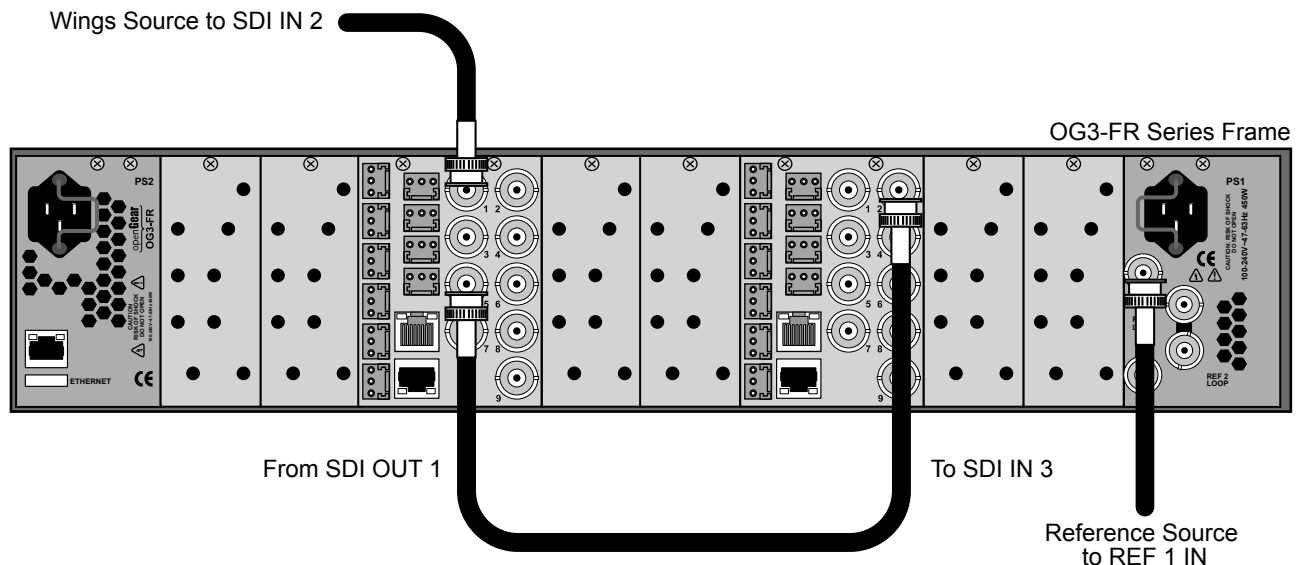

Figure 19.1 Cabling for the Cascade feature
In **Figure 19.1**, the rear module depicted on the left is for the **first** UDC-8625A-B while the rear module on the right is for the **second** UDC-8625A-B. Note that the slots that your rear modules are installed in may differ than what is presented here. Ross Video does not supply the required cables.
10. Connect an input video signals to **SDI IN 2** (BNC 1) on the first UDC-8625A-B. For simplicity, **Figure 19.1** depicts only one SDI input, but you may require more. Refer to “**UDC-8625A-B Rear Module**” for specific cabling designations.